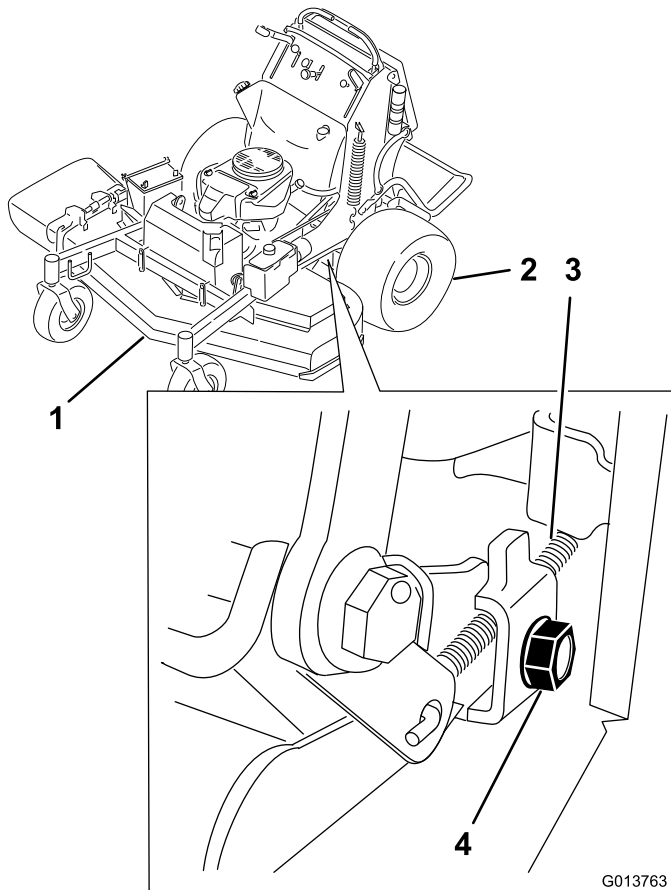

Figure 10
2. Ensure the cable clamp securing the speed control cable jacket to the shifter bracket is loose (Figure 10).